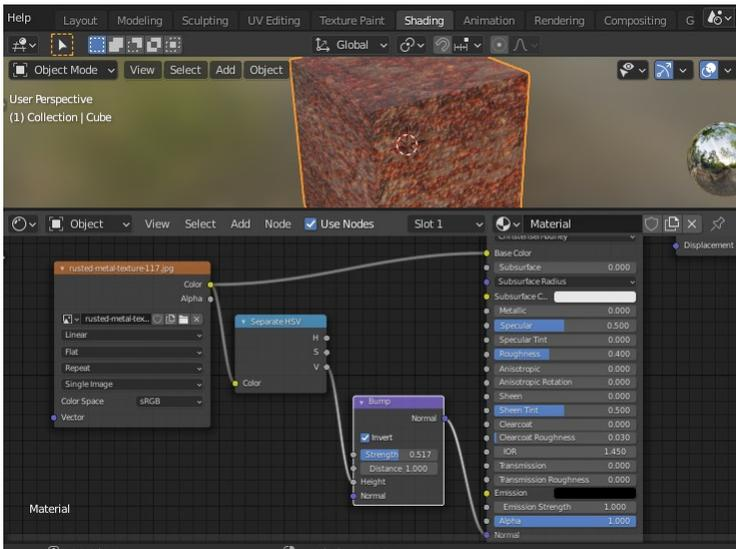

Figure 4-2 The first part of the rusty_fridge Material
8. Start Blender, leave the default Cube selected and change the workspace to **Shading** using the tab right at the top of Figure 4-2.
them to the Base Color and Normal of the default Principled BxDF Shader as I have in Figure 4-2